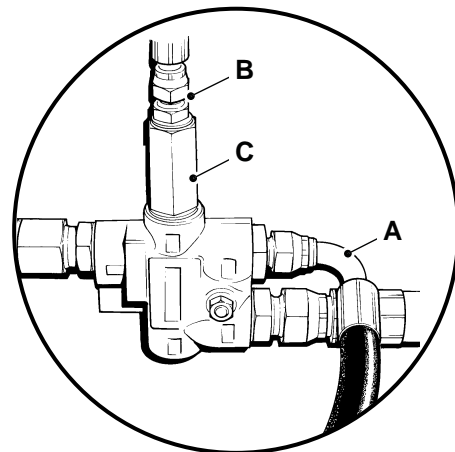

Fig 16.
- 2 Disconnect hose **B** from load sensing port adaptor **C** and blank off → Fig 16. (□ H-16).
- 1 Remove the priority valve from the machine. Refer to Priority Valve - Removal and Replacement → Fig 16. (□ H-16).